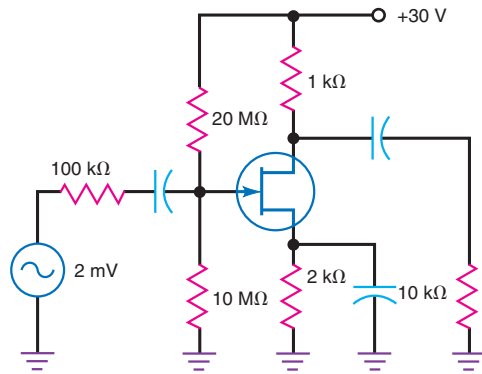

Figure 32-53
- 32.13** The JFET of Fig. 32-53 has $g_{m0} = 6000$ μ S. If $I_{DSS} = 12$ mA, what is the approximate value of I_D for V_{GS} of -2 V? Find the g_m for this I_D .
- 32.14** If $g_m = 3000$ μ S in Fig. 32-53, what is the ac output voltage?